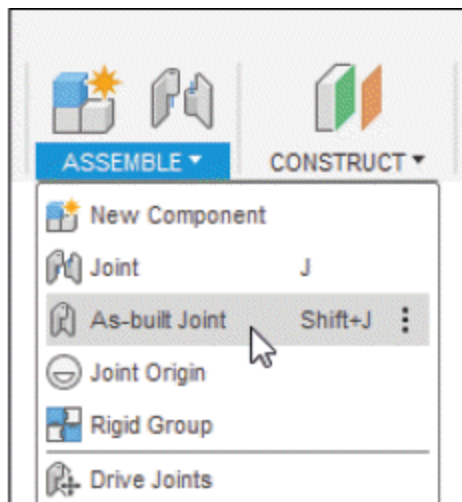
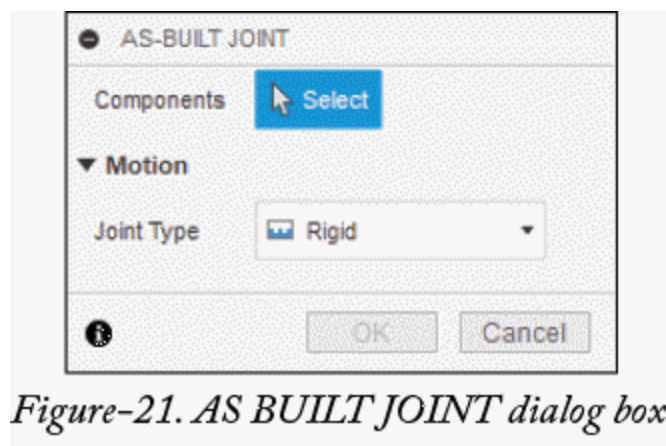

Figure-20. As built Joint tool
Figure-21. AS BUILT JOINT dialog box
- Click on the **As-built Joint** tool of **ASSEMBLE** drop-down from **Toolbar**; refer to Figure-20. The **AS-BUILT JOINT** dialog box will be displayed; refer to Figure-21.